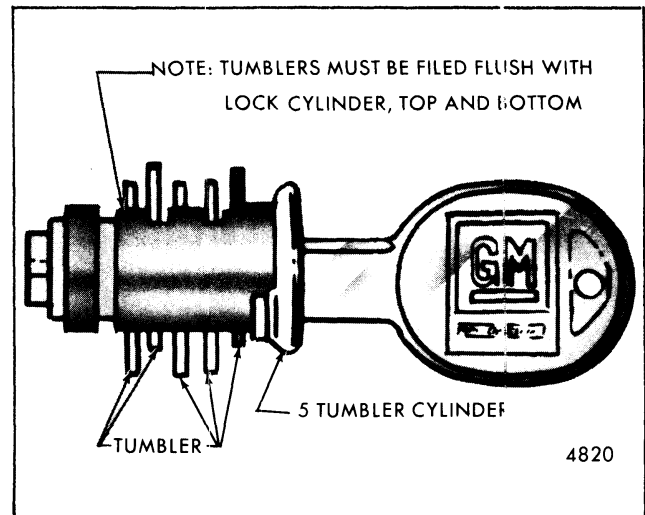

Fig. 1-8-Console Compartment Lock Cylinder
4. Reverse lock cylinder position in vise and repeat step No. 3 for top of tumblers see Figure 1-8.